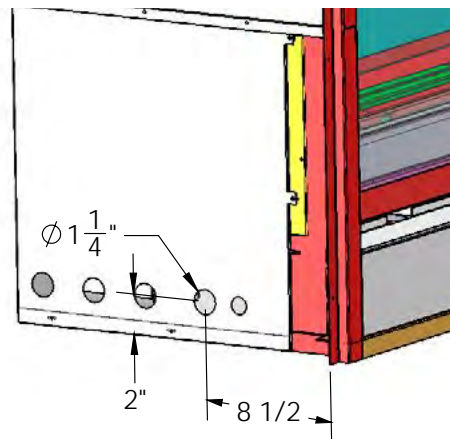

Figure 21. Gas line access.
- See Figure 21 for location of gas line access.